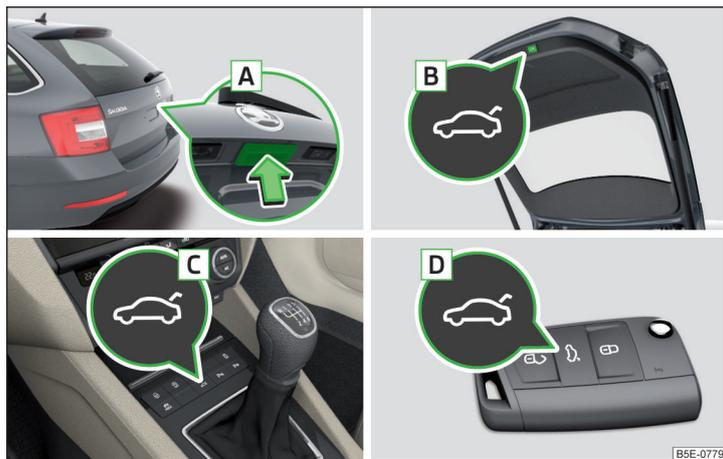

Fig. 40 Lid operation
- ▶ By pressing the handle **A** » Fig. 40.
- ▶ By pressing the button **B** » Fig. 40.
- Press and hold button **B** » Fig. 40 on page 58 until you hear an acoustic signal.
The lid does not react to an opening signal	Removing a possible obstacle (e.g. snow), re-opening the lid » page 58 Press handle A » Fig. 40 on page 58 and pull the lid upwards